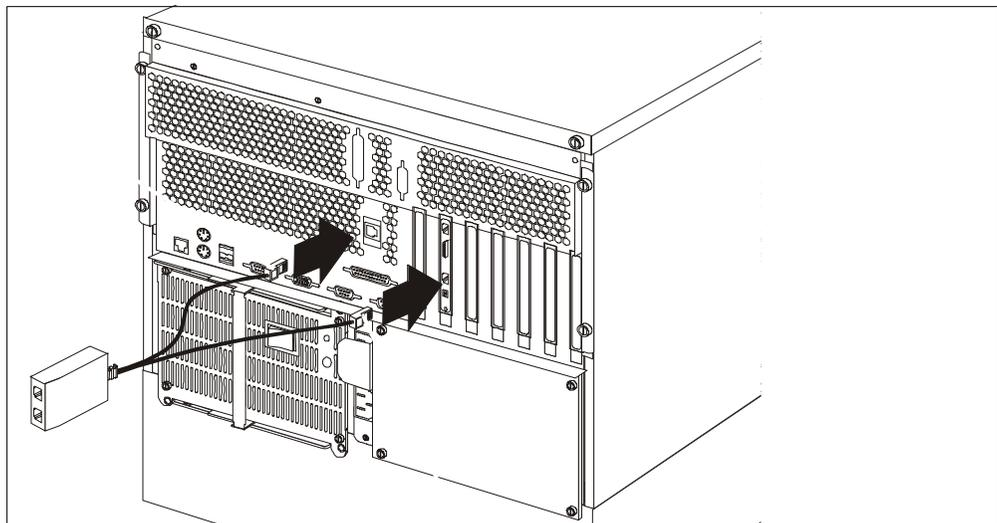

Figure 57. Connecting the ASM PCI Adapter and ASM Processor Together
5. Connect the dual pigtail ASM interconnect cable to both the ASM PCI adapter and the ASM processor as shown in Figure 57: